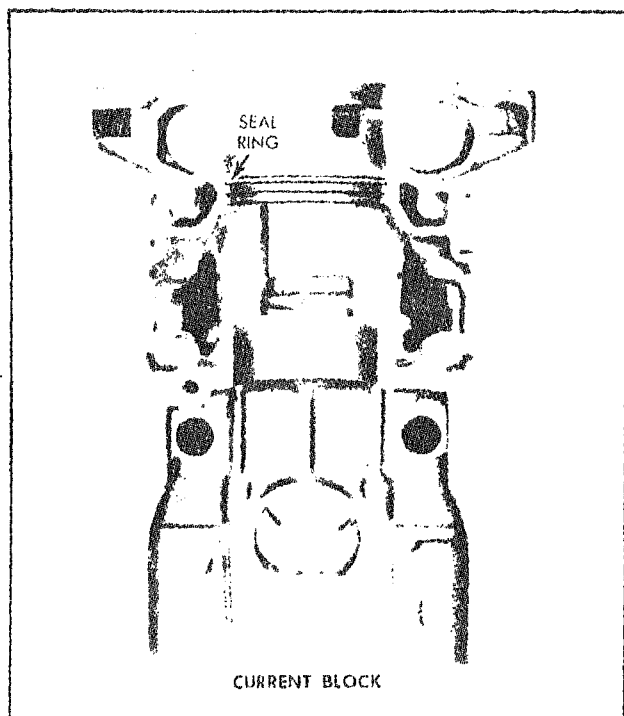

Fig. 11 - Location of Block Bore Seal Ring Groove
- a. Make sure the seal ring grooves (Fig. 11) are thoroughly clean. Then inspect the grooves and lands for evidence of pitting and erosion. Two grooves are provided above the air inlet ports of each cylinder bore in the current block. The single groove formerly below the air inlet ports has been eliminated. However, a cylinder liner seal ring is required in the upper groove only. The lower groove (on the current block) is provided for the seal ring if inspection reveals extensive pitting or erosion along the upper land or inner surface of the upper groove. If both grooves are eroded to the extent that sealing is affected, then the block must be replaced.